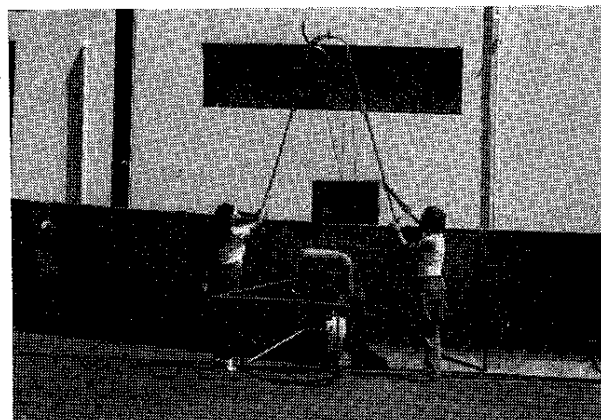

Figure 2.30
36. Stand inside wing cables and lift tail section by the boom tubes into position (best done with two people). **Figure 2.30**